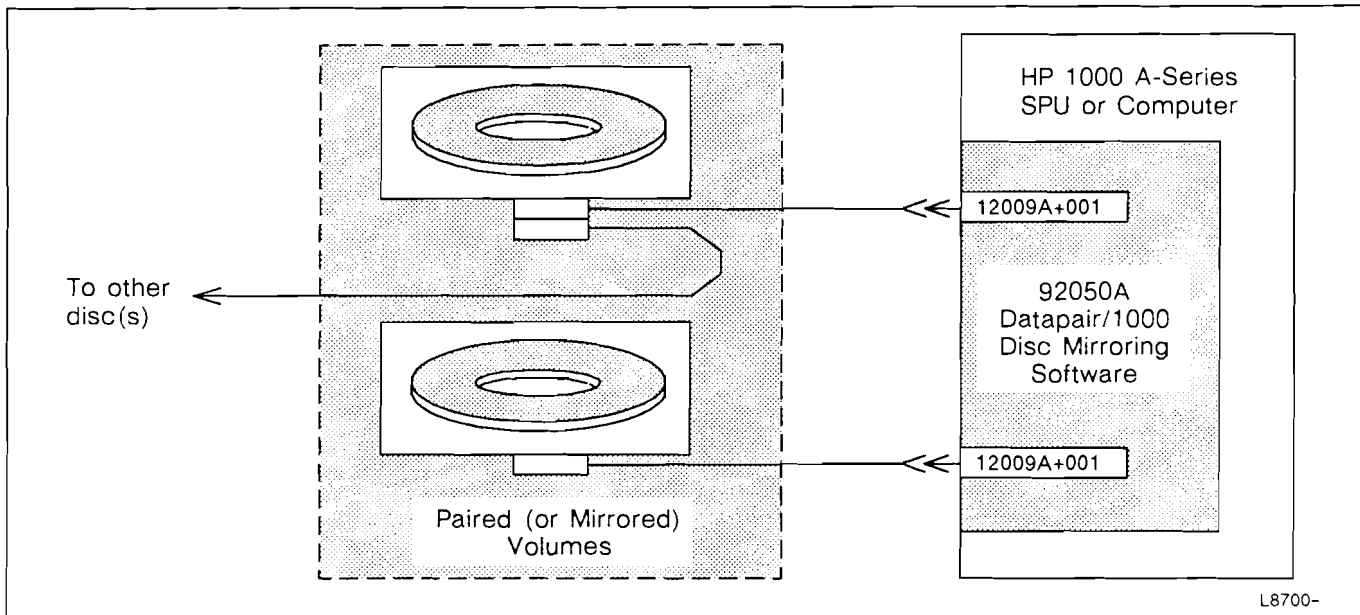

Figure 38. Connection of Paired Volumes to HP 1000 A-Series Systems
43). Any volume may be paired, including the bootable volume. However, if a bootable volume is paired, it must be paired with another bootable volume. Each of the paired volumes must be connected to the system via its own 12009A interface, as shown in Figure 38 on the next page.
The paired volume can include part or all of the capacities of one or several discs. Any unpaired capacity is also available to the system as ordinary disc storage capacity, suggested by the extension of the connection from the upper disc of the pair in Figure 38 "To other disc(s)".